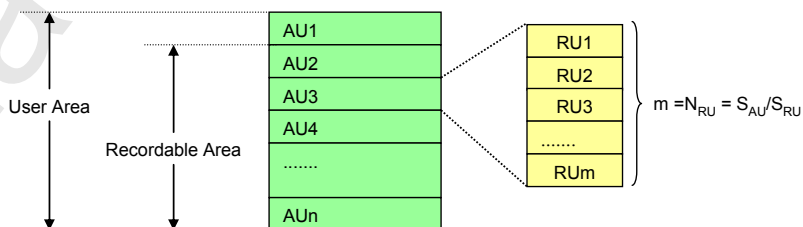

Figure 4-47: Definition of Allocation Unit (AU)
The User Area is divided into units called "**Allocation Unit (AU)**" (Refer to Figure 4-47). AU is physical boundary in User Area of a card and is not defined by the file system boundary. Each card has its own fixed **AU Size ( $S_{AU}$ )** and the maximum AU Size is defined depending on the card's capacity. The host should manage data areas with the unit of AU. If the first AUs in the card contain file system information then they should not be used for real time recording. An AV application should start recording from the first complete AU, to which only user data can be recorded. Note that this specification does not apply to the Protected Area.
Each AU is divided into units called "**Recording Unit (RU)**" (Refer to Figure 4-47). The unit of **RU Size ( $S_{RU}$ )** is 16KByte. The RU Size is a multiple of 16KByte and shall not span across an AU boundary.